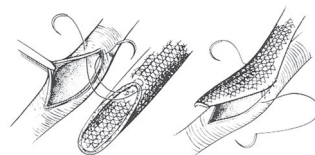

Fig. 9
2. Monofilament polypropylene is the preferred suture material. During suturing evert the edges of the prosthesis and ensure the full wall thickness and a mesh eyelet are taken up with each stitch. Fig. 9.